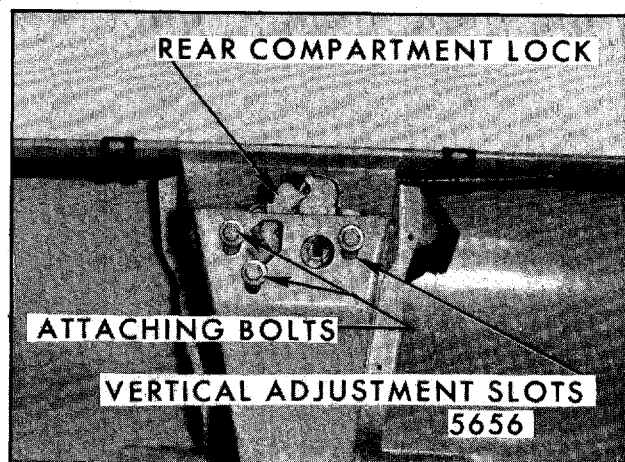

Fig. 7-31-Rear Compartment Lock - "H-11, 77" Styles
2. Remove attaching bolts securing lock (Fig. 7-31 to rear compartment lid or rear end panel.